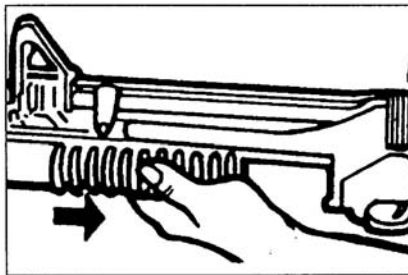

Figure 071-311-2125-8. Locking the M203 barrel
- c.** Install the handguard and secure with the slip ring (figure 071-311-2125-9).